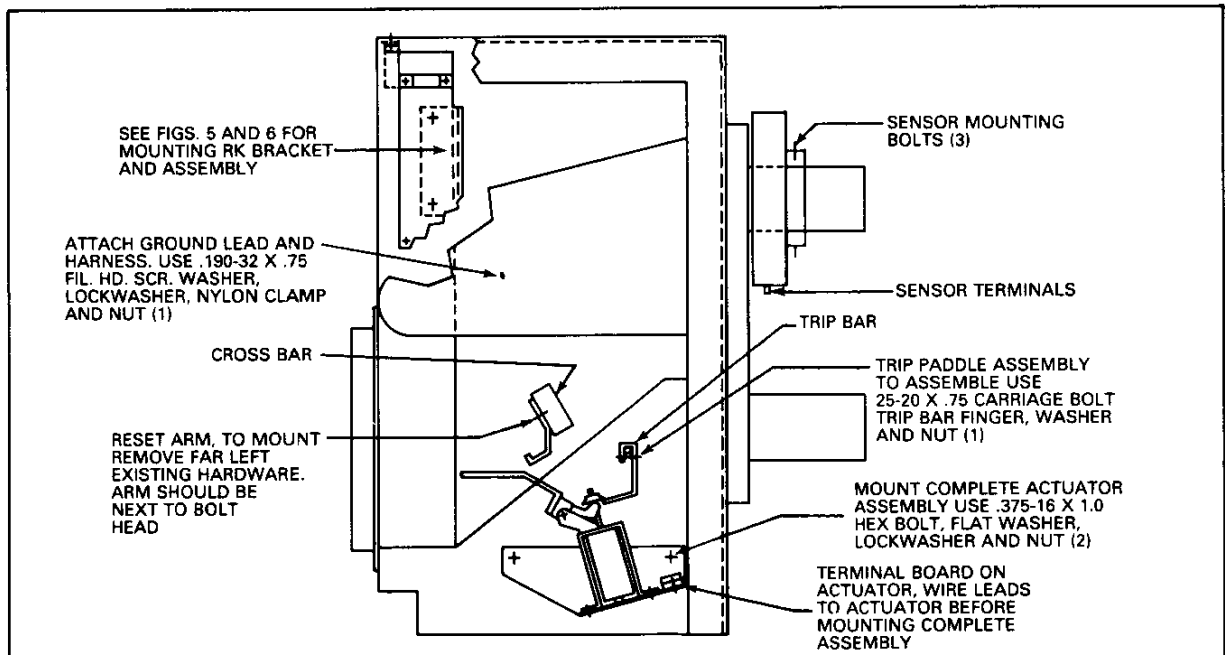

Fig. 8 Left Inside View of Breaker Looking Through from Right Side
1. Viewing the breaker from the left side, position and assemble trip paddle on breaker trip bar using .25-20 x .75 carriage bolt, trip bar finger, washer and nut. Do not tighten this assembly. See Figs. 8 and 9.
5. Directly downward about five (5) inches from the retainer bar and to the right you will locate a  $\frac{3}{16}$ " hole on the side frame. Attach both the ground lead and the harness at this point using .190-32 x .75 fil. head screw, nylon clamp, washer and nut. This now grounds the sensor star point. Fig. 8.
9. Mount the sensors on the studs. See Figs. 8 and 10.